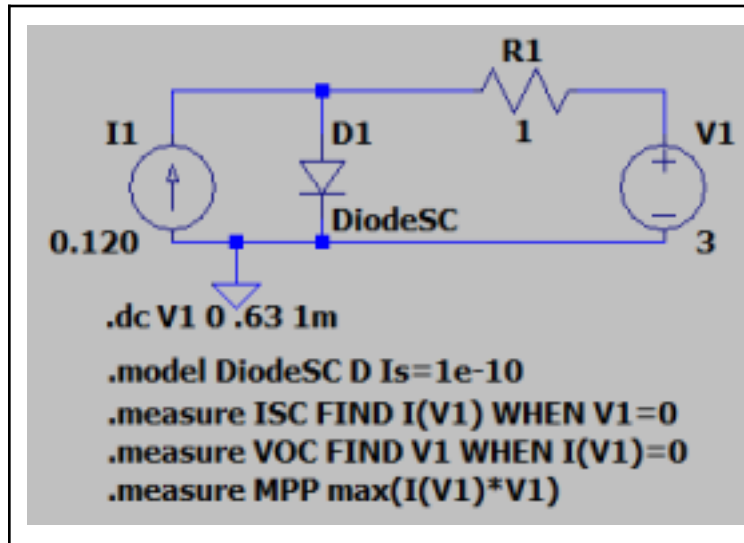
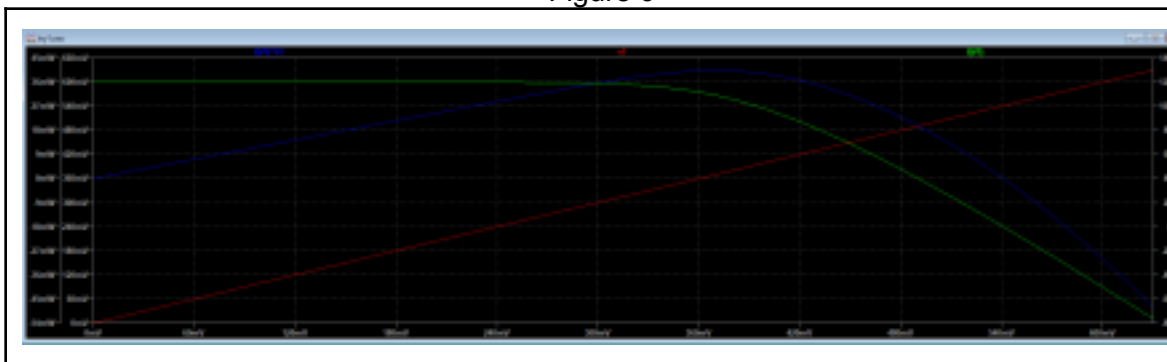

Figure 9
Figure 10
1. Researched programs for modeling and simulating the system. 2. Created a simple solar cell in LTSpice to observe how current, voltage, and power should behave. The model can be found in figure 9 and the outputted graph can be found in figure 10.